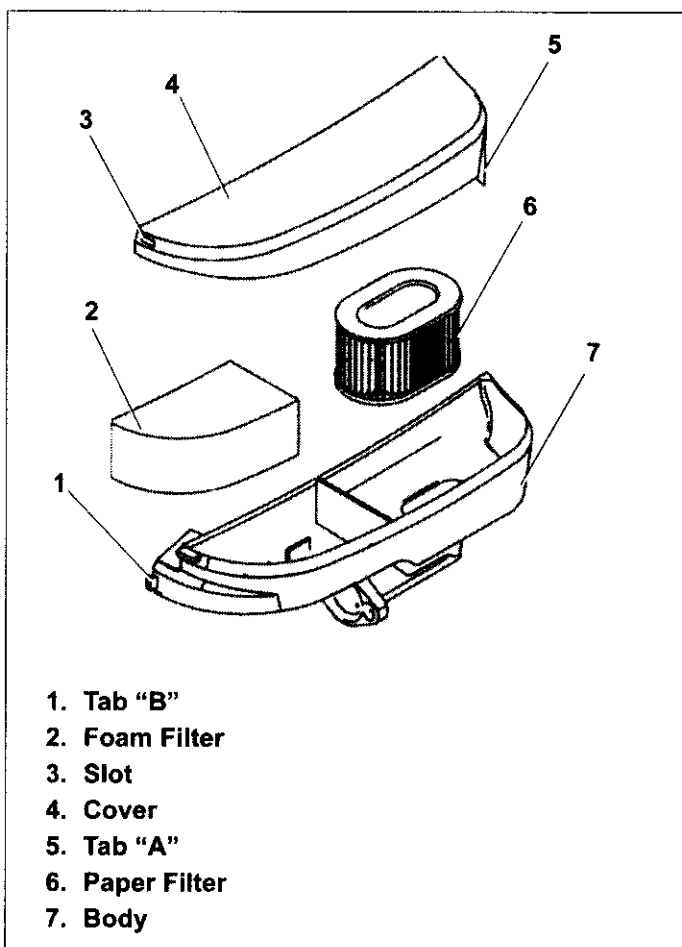

Figure 28. Air Cleaner Type "D" Assembly
1. Remove cover by pulling tab "A" away from body while lifting cover upward. See Figure 28.